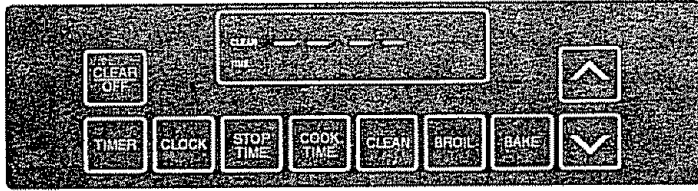

Fig. 1
1. Close oven door. Push **CLEAN**. The time display will show (----). See Fig. 1. You may need to press slightly on the door.